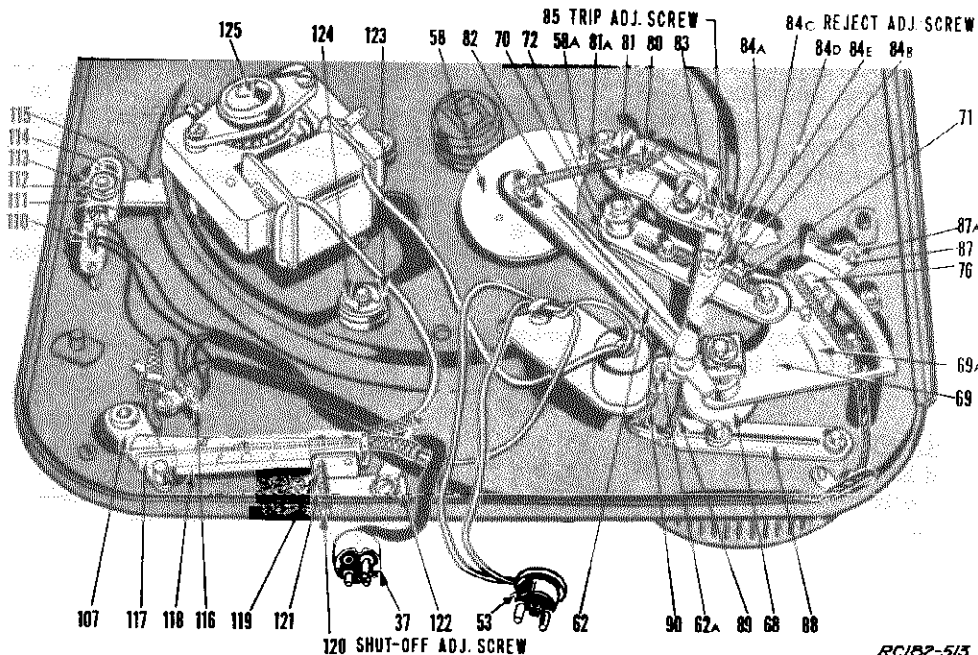

Figure 12 - Bottom View of RC182.
The most important change is the addition of an adjustable reject link (84) which assures more positive rejecting action. See Figure 12. This new reject link consists of reject arm support (84A) spotwelded to trip lever (81), reject arm (84B), adjusting screw (84C), spring washers (84D), and flat washer (84E). The new and old links are interchangeable.
(See Fig 12)
The major differences are the addition of a second pickup arm, a new two speed motor, a speed change switch and knob, and a few related miscellaneous parts. Figures 12, 13 & 14 and the parts list